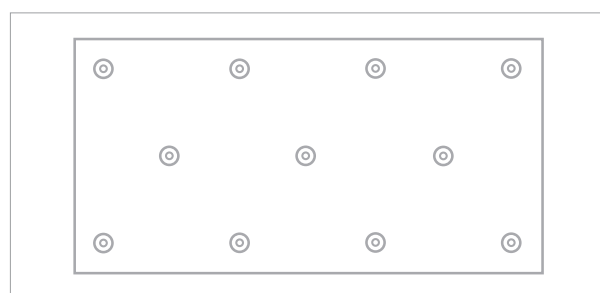
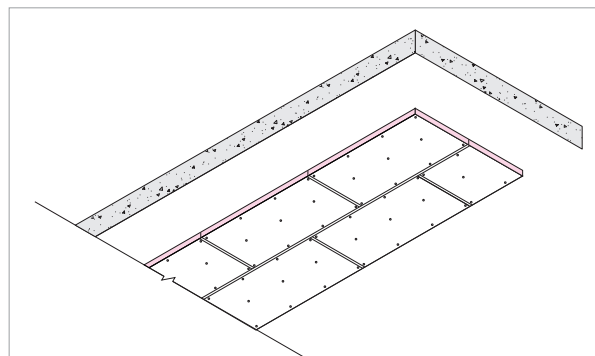
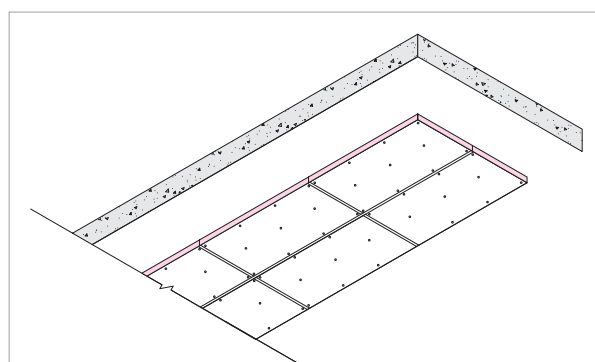

Figure 4. Fastener pattern (11 per board).
Figure 5. Board joints staggered.
Figure 6. Board joints squared.
2. Board joints can be either staggered (see Figure 5) or squared (see Figure 6). Four fasteners along each length - no less than 50 mm - no more than 150 mm from edge of board, three fasteners along the middle (offset from edge positions as per diagram Figure 4).